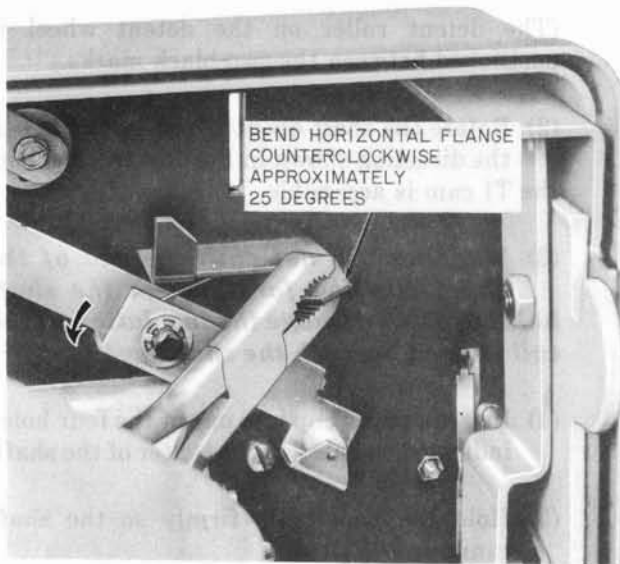

Fig. 55—Bending Chute Guide (Limit Stop)
4.09 If there is a clearance problem between the chute totalizer and the coin cover unit (on the 1-type set), bend the horizontal guide flange located adjacent to the coin slot inside the cover as shown in Fig. 55.